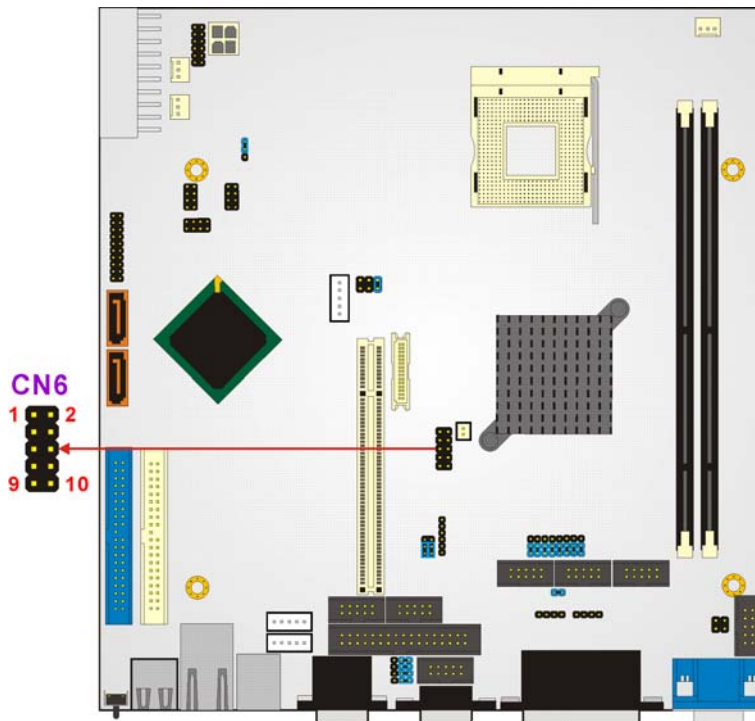

Figure 3-9: Digital Input/Output (DIO) Connector Location
- CN Location: See **Figure 3-9**